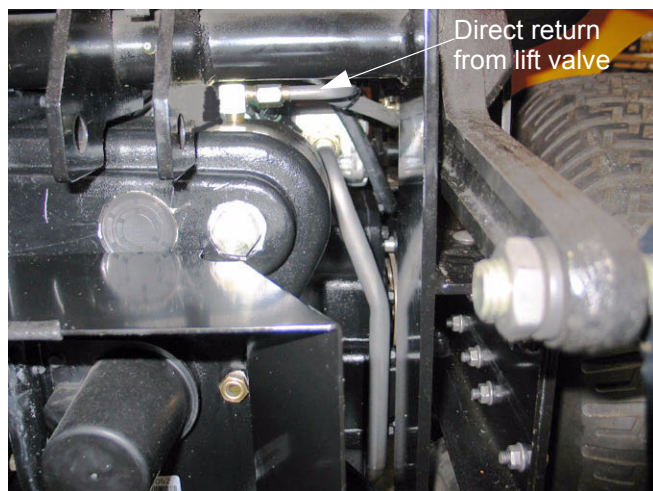

Figure 1.27
- 1.27. Increased fluid volume beyond normal return flow rate is generated when the lift arms are lowered. This flow is exhausted through the top inboard port (rearward facing elbow) back into the transmission housing via a separate return tube. See Figure 1.27.